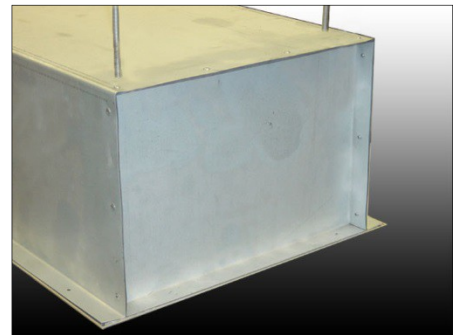
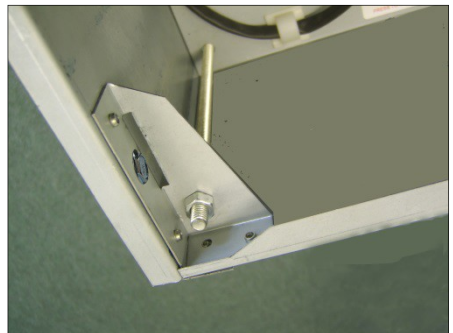

Fig 2
Fig 3
**Step 2** Fix M8 threaded rods (not supplied) through the 2 holes at each end in the top casing (see Fig 2). Feed the rods through the casing and attach to fixing brackets near the bottom of the unit (see Fig 3, looking up into the air curtain). Use M8 lock-nuts either side of fixing brackets to secure hanging rods.